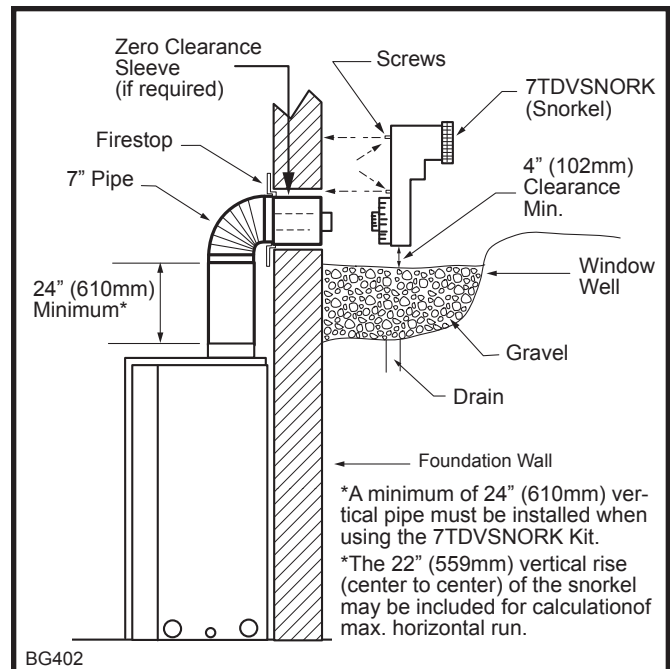

Fig. 28 Below grade installation.
2. Remove soil to a depth of approximately 16" (406 mm) below base of snorkel. Install drain pipe. Install window well (not supplied). Refill hole with 12" (305 mm) of coarse gravel leaving a clearance of approximately 4" (102 mm) below snorkel. (Fig. 28)
7. Level the soil to maintain a 4" (102 mm) clearance below snorkel. (Fig. 28)